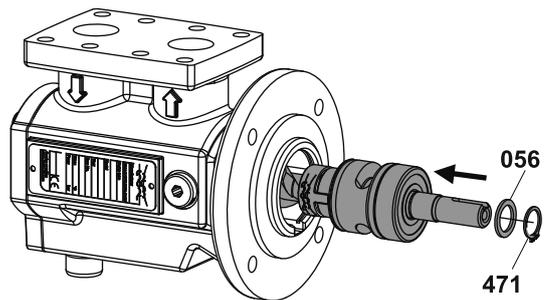

Fig. 16
7. Mount the supporting ring 056 and circlip 471. Slide the main screw with premounted sealing sleeve into the pump housing until the main screw engages into the idle screws, see Fig. 16. In doing so turn the main screw and take the position of the clearance for the adapter sleeve into account.